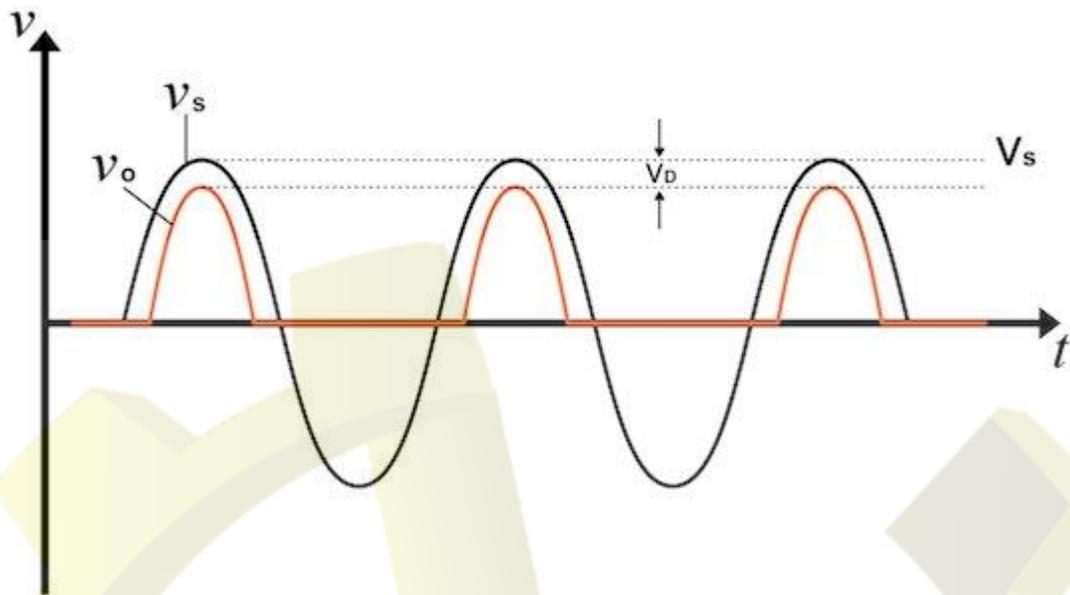

Figure 1.2 (C) Input and output waveforms
When determining which diodes to use in a rectifier circuit, there are two things to take into consideration: 1) the diode's ability to handle current, which must be chosen based on the largest current that is expected to be conducted by the diode, and 2) the peak inverse voltage (PIV), which is the highest reverse voltage to which the diode will be subjected; the diode must be able to withstand the PIV. Looking at Figure 1.2 (A), we can observe that when the voltage v_s is negative, the diode will be cut off and the voltage v_o will have a value of zero, leading to a reverse voltage across the diode of magnitude v_s . Thus, the PIV is the peak of v_s :